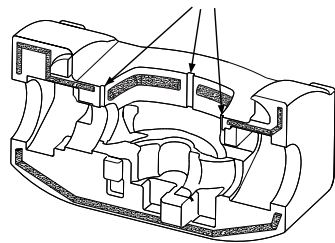

Fig. 5 Applying silicon sealant (dotted areas indicate sealant)
2. Apply water proof, heat resistant, silicon based sealant to insulation shell. Care should be taken to not block weep slots for pump motor when applying sealant. Failure to follow proper sealant location procedures could damage motor and insulation shell. See fig. 5 for proper locations when applying sealant.